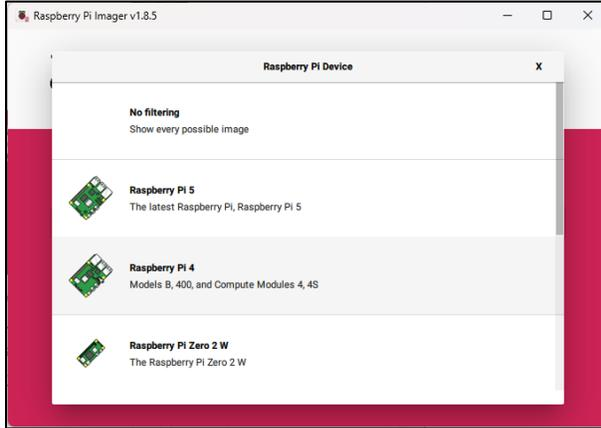

Figure 79 Selecting the Device
3. Under **Raspberry Pi Device**, select **Raspberry Pi 4** as shown in **Figure 79**.